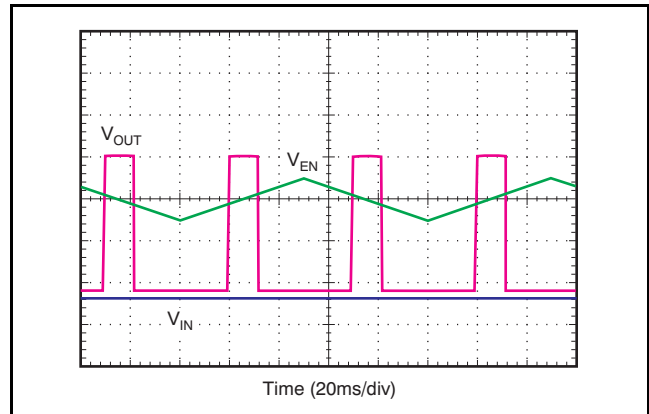

Figure 31. Enable Pin Positive/Negative Threshold
The TPS7A30xx provides a dual polarity enable pin (EN) that turns on the regulator when $|V_{EN}| > 2.0V$, whether the voltage is positive or negative, as shown in Figure 31.